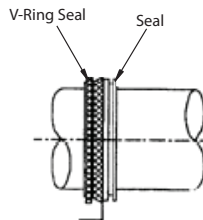

Figure 4
- Install a V-ring seal on each seal ring with the lip on V-ring facing the large OD of the seal ring (Figure 4).
- Slide one of the seal assemblies on the shaft to the proper location for assembly into the housing. The lip of the V-ring seal must face the bearing (Figure 4).